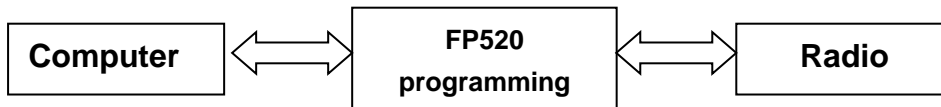

Fig 4.5
B. As Fig 4.5 shows, using the FP520 programming cable to connects the computer with the radio